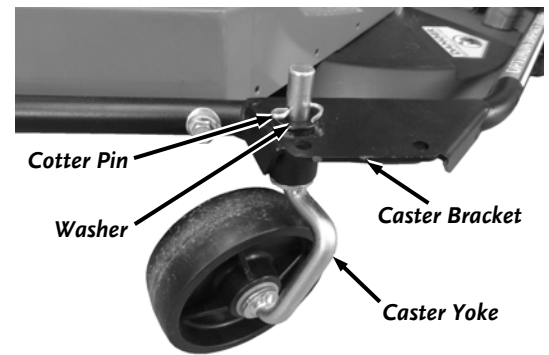

Figure 9
9. Insert the Caster Yoke pivot into the Caster Bracket and secure with a 5/8" Washer and Cotter Pin using Pliers (*Figure 9*).